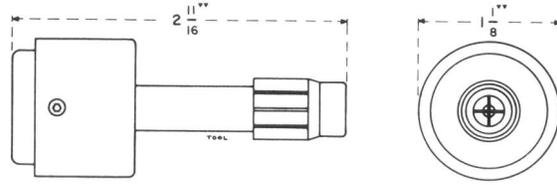

Fig. 13—706A Diode Remover Tool
2.15 706A: The 706A diode remover tool (Fig. 13) is used in removing 427A or similar type diodes in TH Radio System modulators.